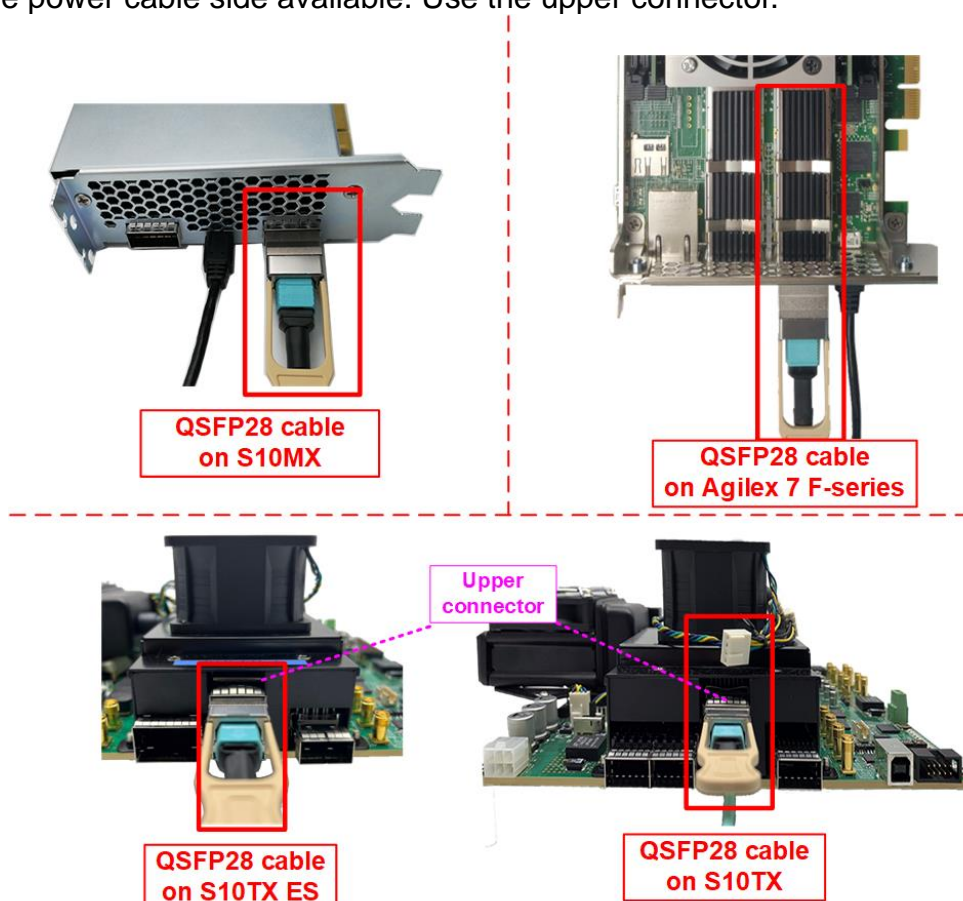

Figure 2-6 100G Ethernet connection
- 3) Establish a connection between the FPGA board and the PC by connecting a 100G Ethernet cable. Insert two QSFP28 with MPO to MPO cable between the FPGA board and the PC, as shown in Figure 2-6.